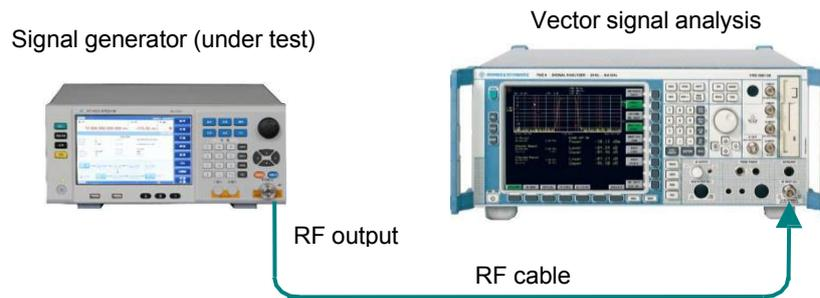

Figure 7.8 Test on EVM and original offset
1. Connect equipment as shown in Figure 7.8, start up the instrument, and warm it up for at least 30 min.